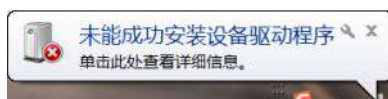

Figure 1-9 Unsuccessful driver installation
①Connecting the host computer and the servo driver using the USB data cable shows that the driver has failed to be installed automatically. As shown in Figure 1-9.